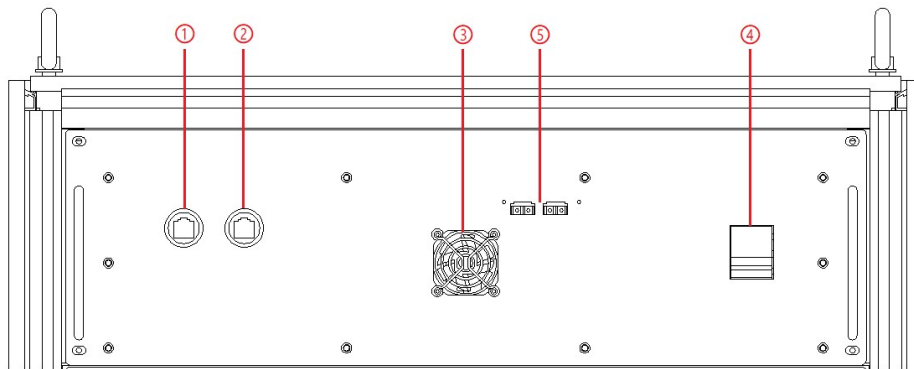

Figure 3-7
**Step 3:** Open the cabinet door and power off the control unit switch (Figure 3-7④).